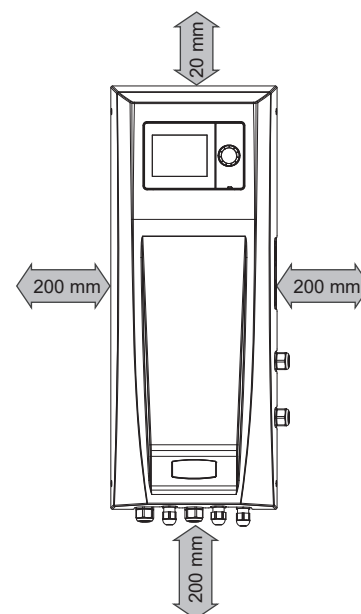

Figure 15. Control Box - Clearances
**⚠ CAUTION:** Do not obstruct the product by any surrounding objects or surfaces as this can limit access and adversely affect performance. The minimum clearances that are shown in *Figure 15* should be always maintained.